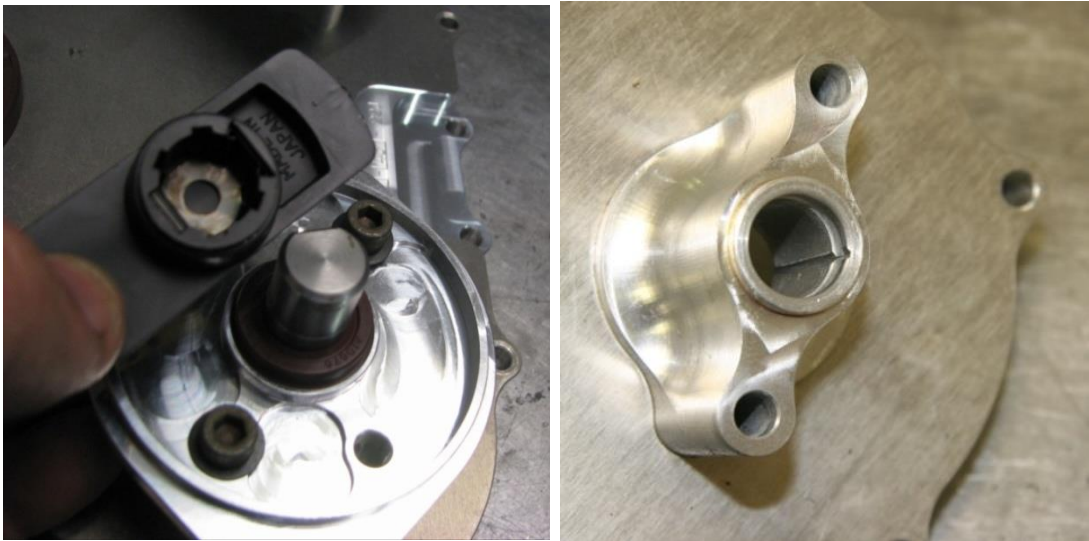

Figure 155 – New Distributor Shaft Bush Fitted – nopic x 1
- Glue the distributor rotors to the shafts using 5-minute Araldite mixed with a suitable filler (such as cotton flock) as shown in Figure 155.
- New bushes must be fitted to the distributor housings as shown in Figure 155. Distributor posts must be generously lubricated with Nulon L90 or grease.